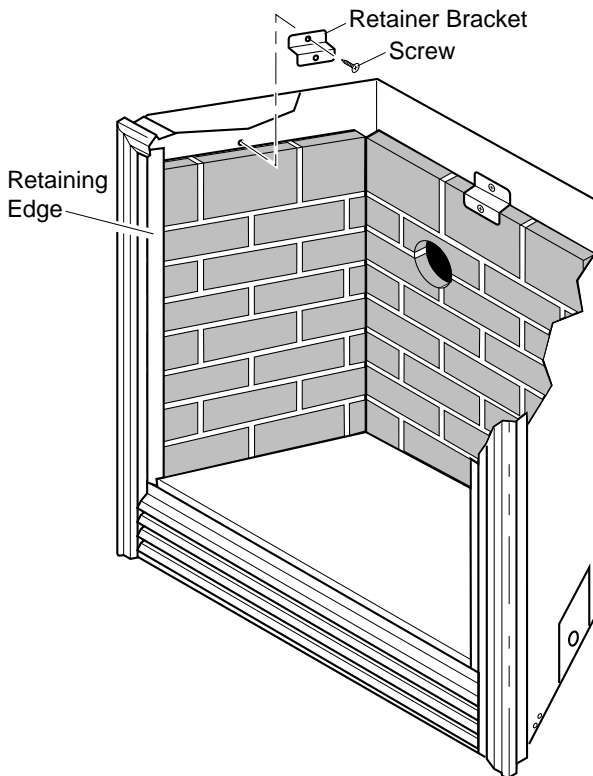

Figure 6 - Securing Side Firebrick Panel to Side Wall of Fireplace
6. Secure side firebrick panel to side wall of fireplace with one retainer bracket and one screw (see Figure 6).